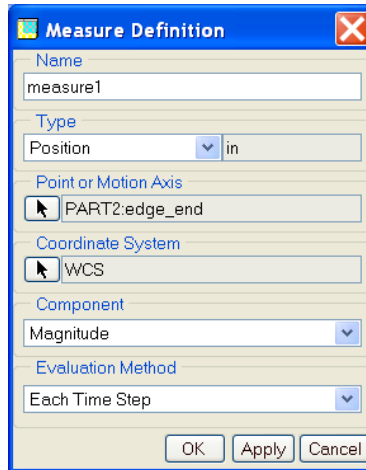

Figure 11
- h) Select **Y-component** in the **Component** area, and accept the WCS for the **Coordinate System**. Under **Evaluation Method**, accept **Each Time Step** as shown in Figure 11.